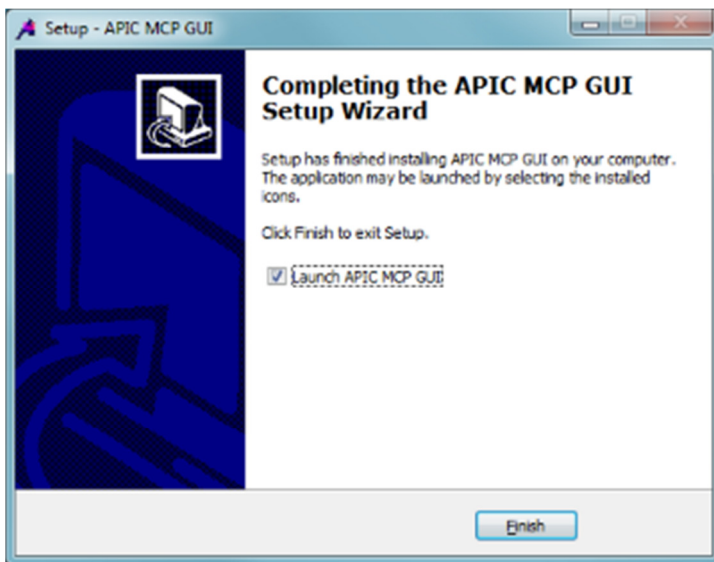

Figure 6 - Final MCP Installation Screen
7. The final installation screen, illustrated in Figure 6, gives the option to launch the program after installation. The program will launch when you click the Finish button, by default. Click the Finish button to finish the installation.